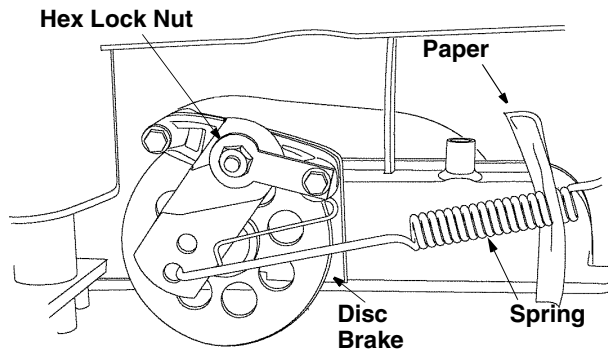

Figure 24
- Working on the right side of the tractor, try inserting a piece of paper through the coils of the brake spring. See Figure 24.